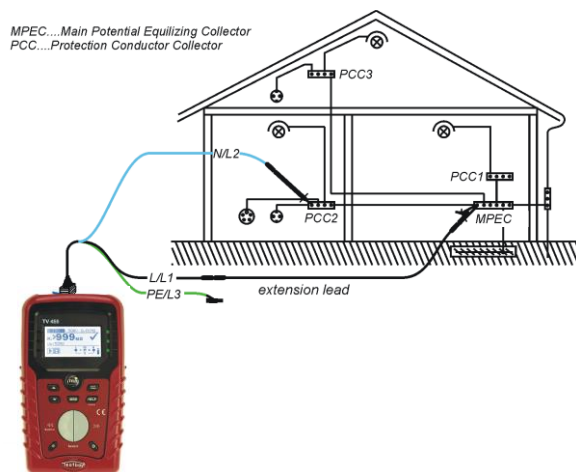

Figure 5.9: Connection of 3-wire test lead plus optional extension lead
- ❑ **Connect** the test leads to the appropriate PE wiring (see figure 5.9).